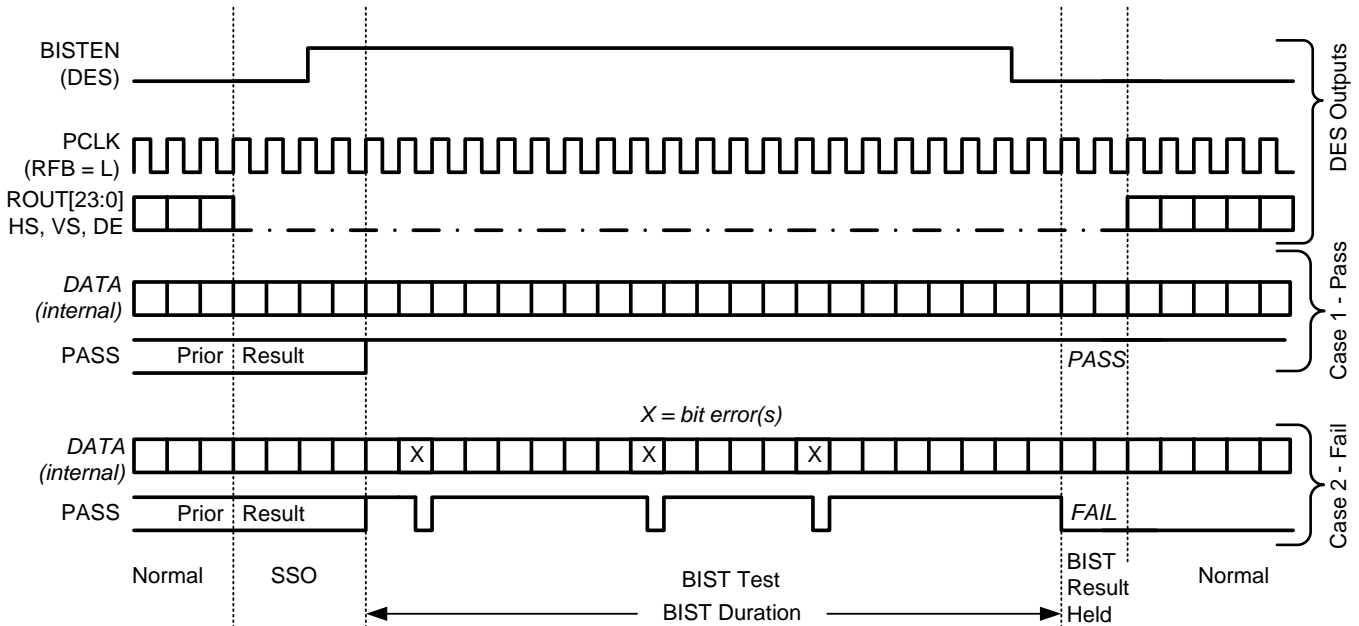

Figure 20. BIST Waveforms
Step 4:The Link returns to normal operation after the deserializer BISTEN pin is low. Figure 20 shows the waveform diagram of a typical BIST test for two cases. Case 1 is error free, and Case 2 shows one with multiple errors. In most cases it is difficult to generate errors due to the robustness of the link (differential data transmission etc.), thus they may be introduced by greatly extending the cable length, faulting the interconnect, reducing signal condition enhancements (Rx Equalization).